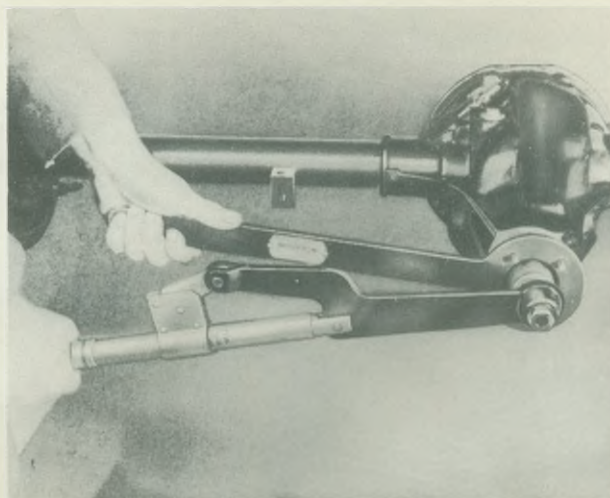

Fig. 26. Tightening driving flange holding nut with Churchill torsion wrench.
9. Fit pinion into position, subsequently fitting distance collar, original shims removed on dismantling inner portion of tail bearing, oil thrower and driving flange, tightening this into position with securing nut employing $1\frac{1}{4}''$ A/F tension spanner and flange holding tool as shown in Fig. 26. Tighten nut to 140-160 lbs. feet tension. For the next test DO NOT fit the oil seal.